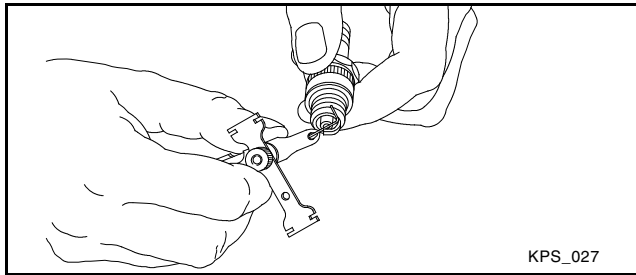
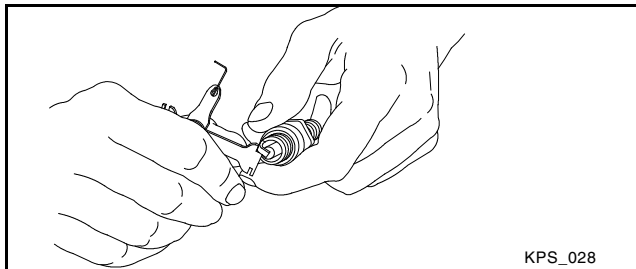

Figure 2-7 Checking the Spark Plug Gap
Figure 2-8 Adjusting the Spark Plug Gap
3. Check the spark plug gap using a wire feeler gauge. Adjust the gap to 0.76 mm (0.030 in.) by carefully bending the ground electrode. See Figure 2-7 and Figure 2-8.